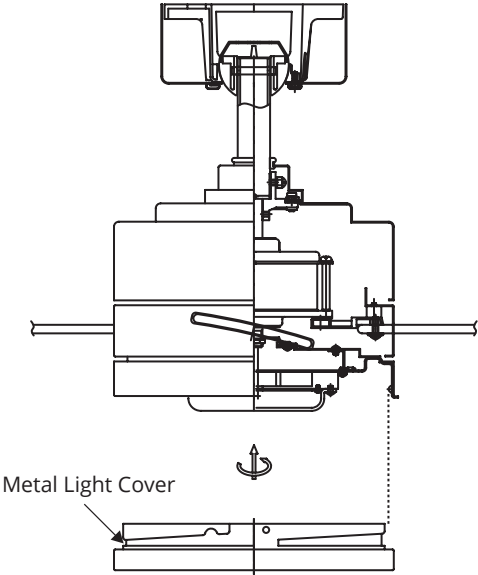

FIGURE 20
5. If installing the optional metal light cover, make sure it is securely tightened (Fig. 20).
NOTE: Add metal light cover if you do not need lighting function or prefer a different aesthetic (Fig. 20).